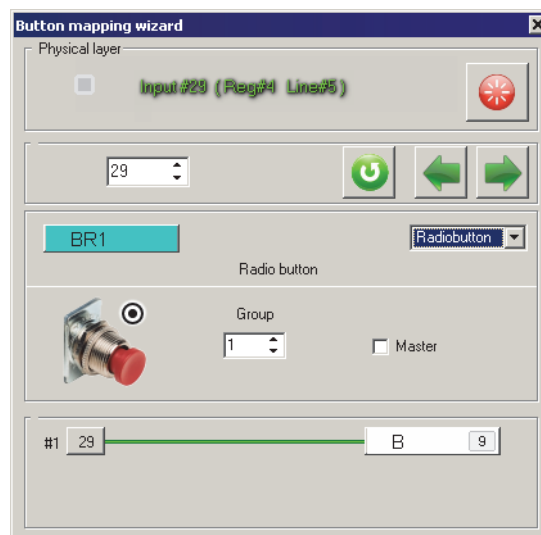

Fig. 4.8.
**Button mapping wizard** dialog for Radiobutton function is shown on Fig. 4.8.